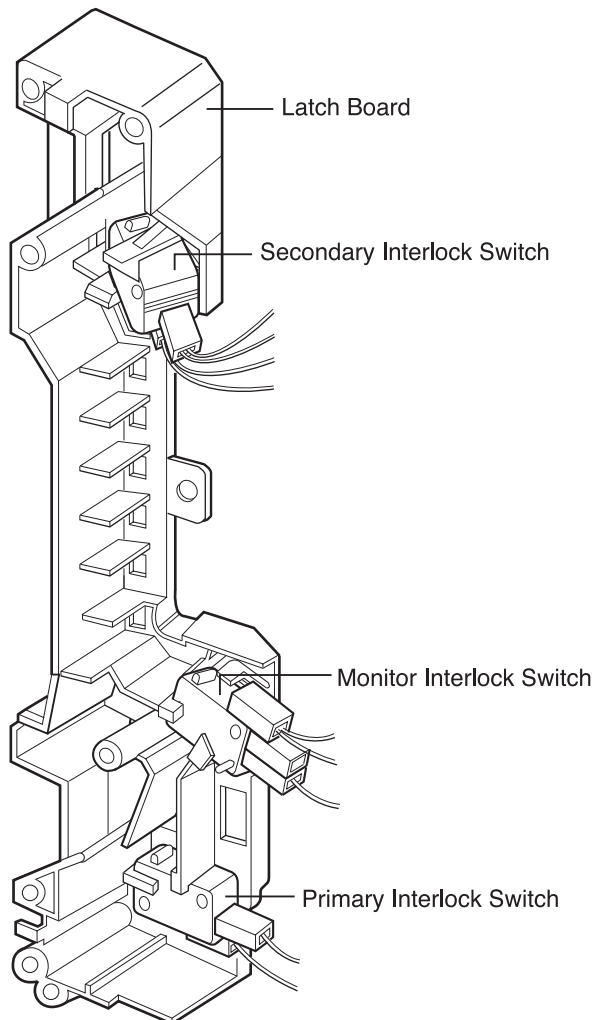

Figure 9
C. REMOVING THE DOOR INTERLOCK SWITCHES (Figures 9,10)
- (1) Disconnect the wire leads from the interlock switches.
- (2) Remove two screws securing the Latch Board.
- (3) Make necessary replacements and check microwave energy leakage according to "ADJUSTMENT PROCEDURE" on page 7-12.